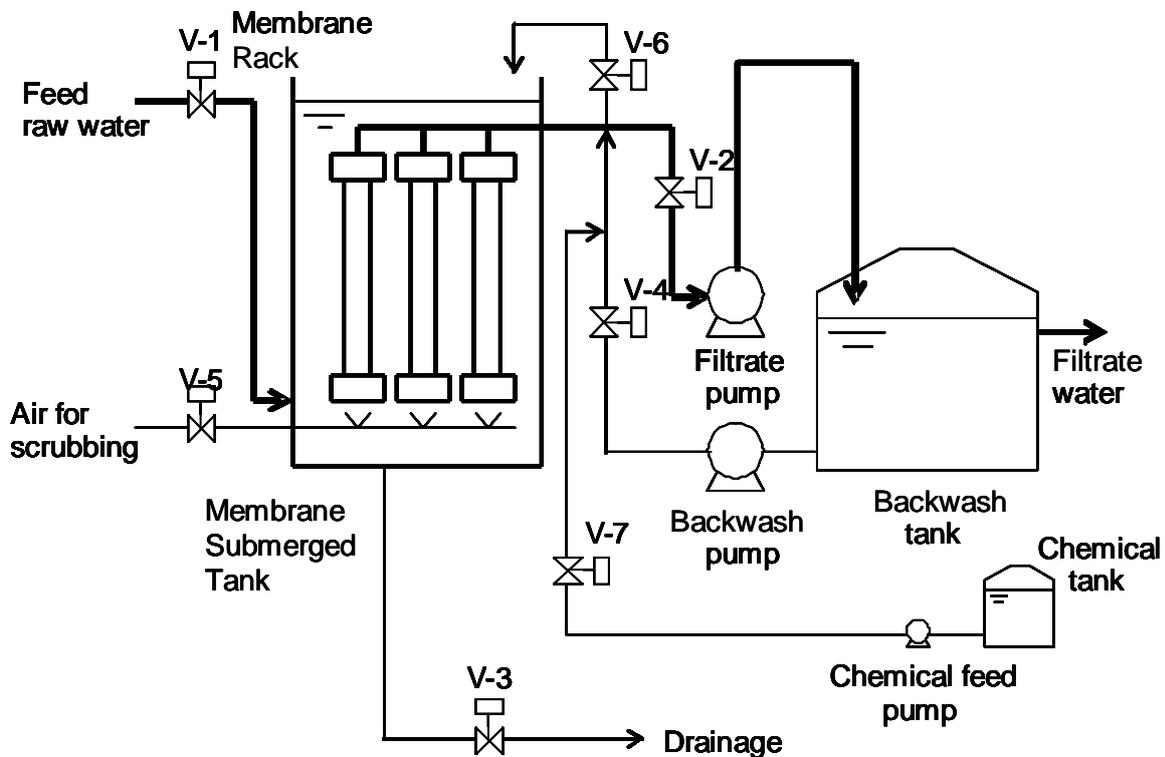
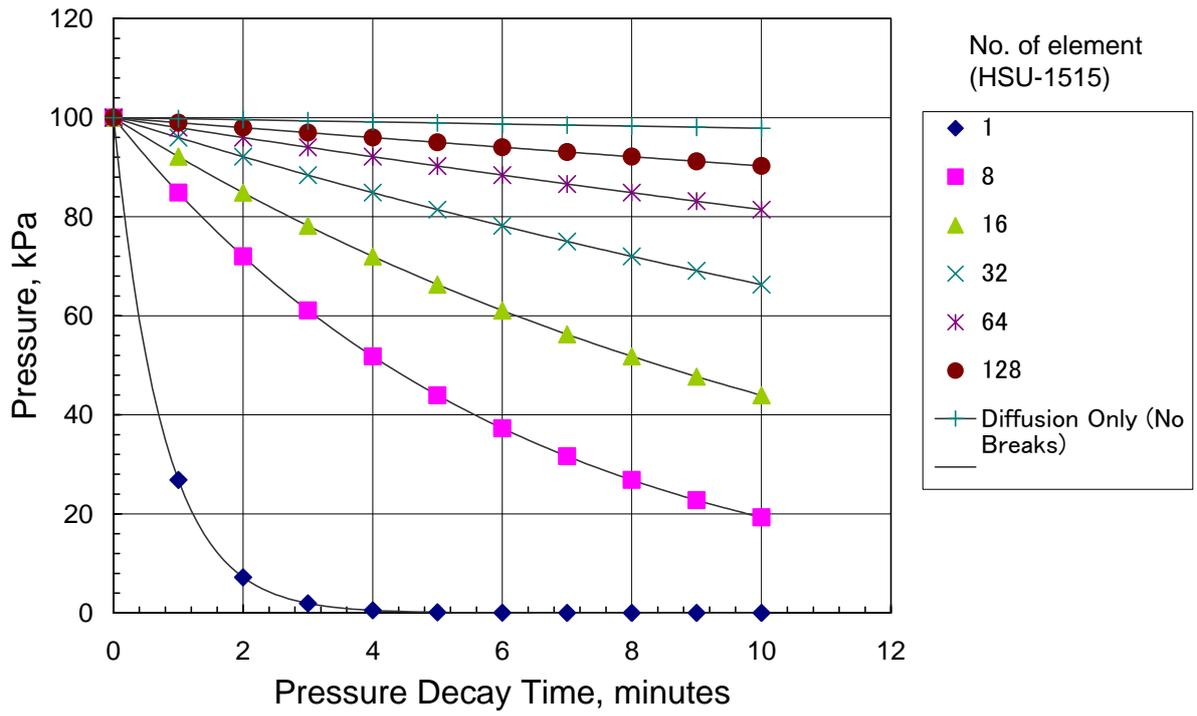

Fig. 10 Flow diagram for filtration
Fig. 17 HSU-1515 pressure decay rates with one broken membrane fiber (calculated)
Fig. 10 shows a typical example of the flow diagram for filtration.
- (1) Stop filtration to be tested. Ensure all of the elements are completely submerged. Set the distance (H) of top of the element to water level of the submerged tank to approximately 0.1 m. Close all valves.
- (2) Set the PDT air pressure to a fixed value ( $P_2=100$  kPa) by using a regulator.
- (3) Introduce oil free air to the permeate side by opening the PDT valve (V-6).
- (4) Set the air pressure of the filtrate manifold to a fixed value ( $P_1=100$  kPa) by fine adjustment of the regulator. Close the PDT valve (V-6) when the air
- (5) Monitor the pressure decay ( $\Delta p$ ) of the feed air pressure for 5 to 10 minutes, dependent on the number of elements. See Fig. 17 for examples of pressure decay due to one broken membrane fiber. If pressure decay is excessive, a visual inspection of the element will be required (see step 7). The pressure decay rate depends on the H. The Fig. 10 shows in case of  $H = 0.1$  m. Please correct the Fig. 17 by using the actual H.
- (6) Diffusion of air through the water filled pores of the membrane fiber leads to a pressure decay of approximately 1 kPa in 5 minutes (dependent on the volume of the pipe work manifolds, etc.). A single broken membrane fiber in 128 HSU-1515 elements gives a pressure decay of approximately 5 kPa in 5 minutes, so a decay of 5 kPa in 5 minutes is normally used to indicate the presence of a single broken membrane fiber for this size of unit.
- (7) In case of the pressure decay is excessiveness, identify the elements with broken membrane fibers by visual check of water surface (bubbling) in the submerged tank. The pressure time should be kept within 15 minutes to keep from drying out of the membrane.
- (8) Mark any leaking elements for subsequent replacement.
- (9) After the 3 to 10 minutes pressure hold test period (or after identifying the elements with broken membrane fibers), relieve pressure in the permeate side of the membrane element by opening the air vent valve (V-7). If there are elements with broken membrane fibers, dismount it after the pressure release.
- (10) Open the backwash valve (V-5), run the backwash pump and vent air from the filtrate manifold through the V-7.
- (11) After venting air from the filtrate line, close the V-5 and the V-7, then stop the backwash pump.
- (12) The unit is now ready for processing.